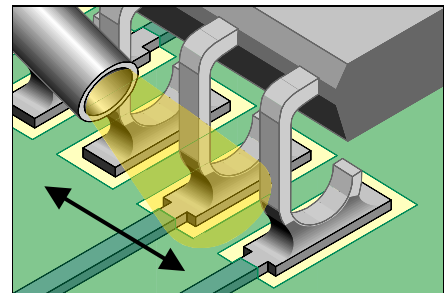

Figure 2: Move the tool back and forth to heat all the solder joints until complete solder melt is observed.
5. When the solder paste has dried, move the hot air tool tip to approximately 0.50 cm (0.20") above the component. Move the tool back and forth to heat all the solder joints until complete solder melt is observed. (See Figure 2).